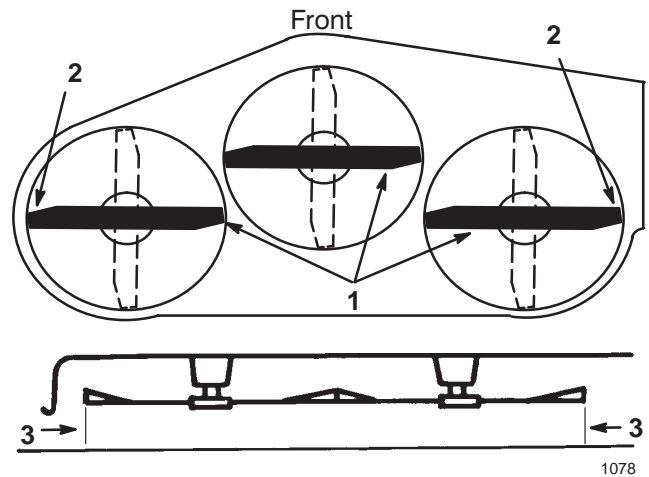

Figure 37
4. Carefully rotate the blade(s) from side to side (Fig. 37). Measure between the outside cutting edges and the flat surface (Fig. 37). If both measurements are not within 3/16 in. (4.75 mm), an adjustment is required; refer to steps 5 and 6.